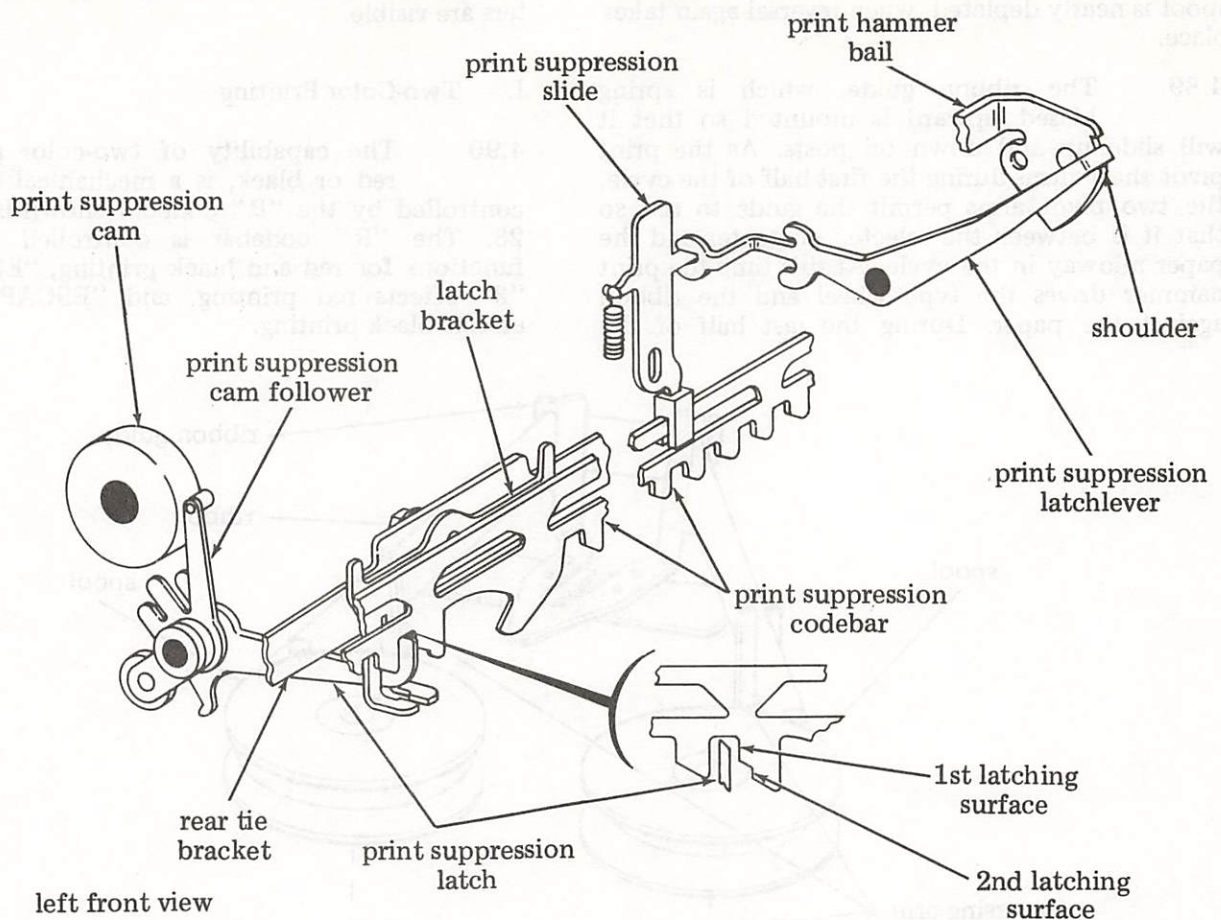

Figure 31 - Print Suppression Mechanism
4.81 The print suppression mechanism, illustrated in Figure 31, prevents printing whenever a function code combination is received.